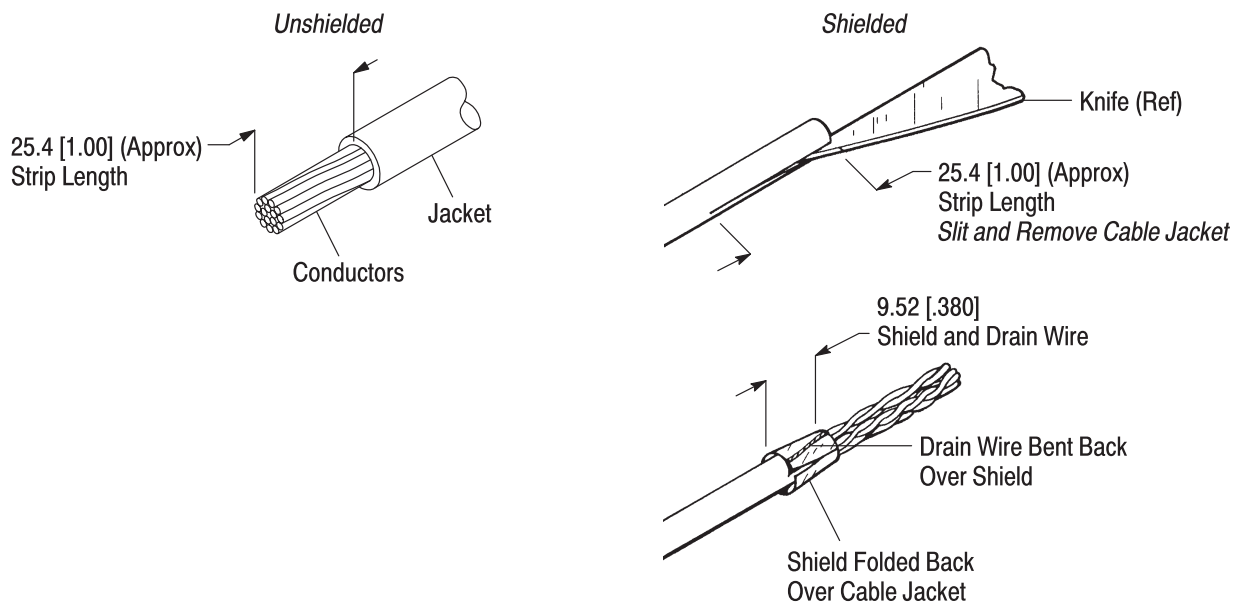

Figure 2
1. The sealing nut (small diameter end first), wire entry seal, and plug assembly (tines end first) must be installed onto the cable. See Figure 2, Detail A.
2. Proper strip length is necessary to insert the conductors into the contact slots of the modular plug. The recommended strip length is given in Figure 2, Detail B.
For shielded cable, the shield must be folded back over the cable jacket, and the drain wire must be bent back over shield. The shield and drain wire must be trimmed to the dimension given in Figure 2, Detail B.